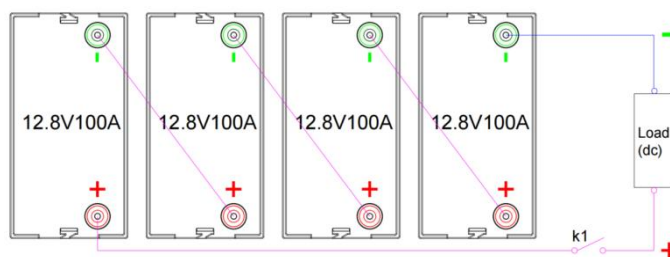

Figure 5-1 Series Application: 4S1P,51.2V100Ah
- Series connection schematic (up to 4 in series, 51.2V100Ah (corresponding to 48V for lead-acid batteries), as in Figure 5-1